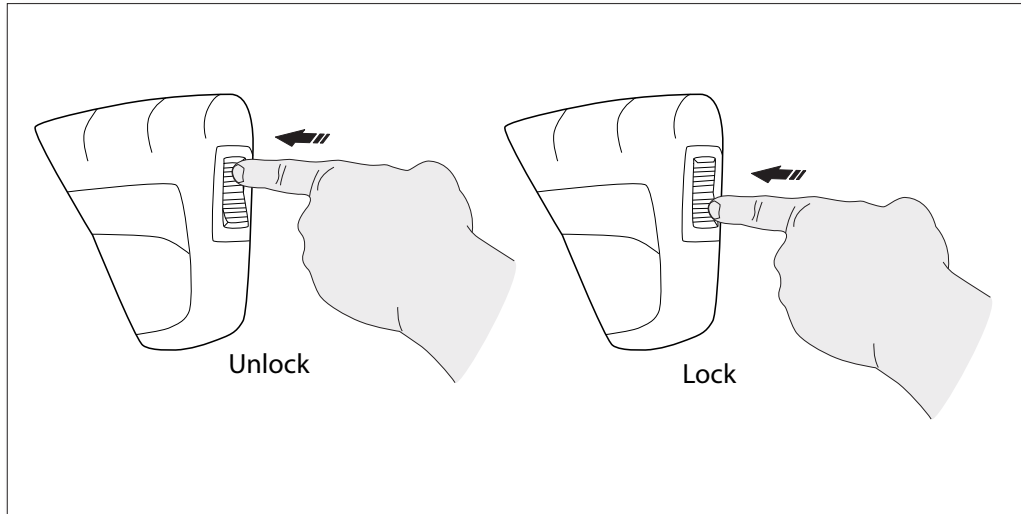

Fig. 7
- To lock the trigger of the spray gun aim the gun away from you and press the lock button forward to the front of the gun, (**Fig. 7**), after doing so, squeeze or pull the trigger to make sure it is locked and will not move. Always leave lock button in lock position when not in use. This ensures the gun is in “safe” mode until it is ready for use. Press the lock button back to unlock.